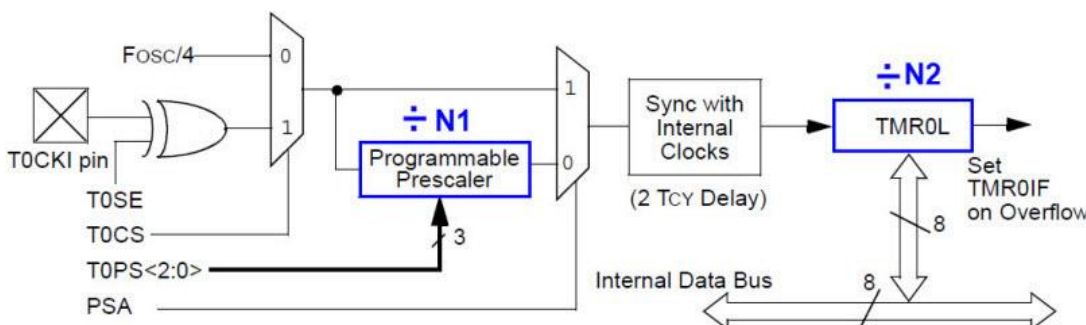

Fig. 6 TMR0 architecture for 8-bit mode.
8. Configure and program TMR0 represented in Fig. 6 to generate a squared 2.5 Hz signal so the LED will be blinking intermittently when at `Stopped` state. Explain whether new states are required.